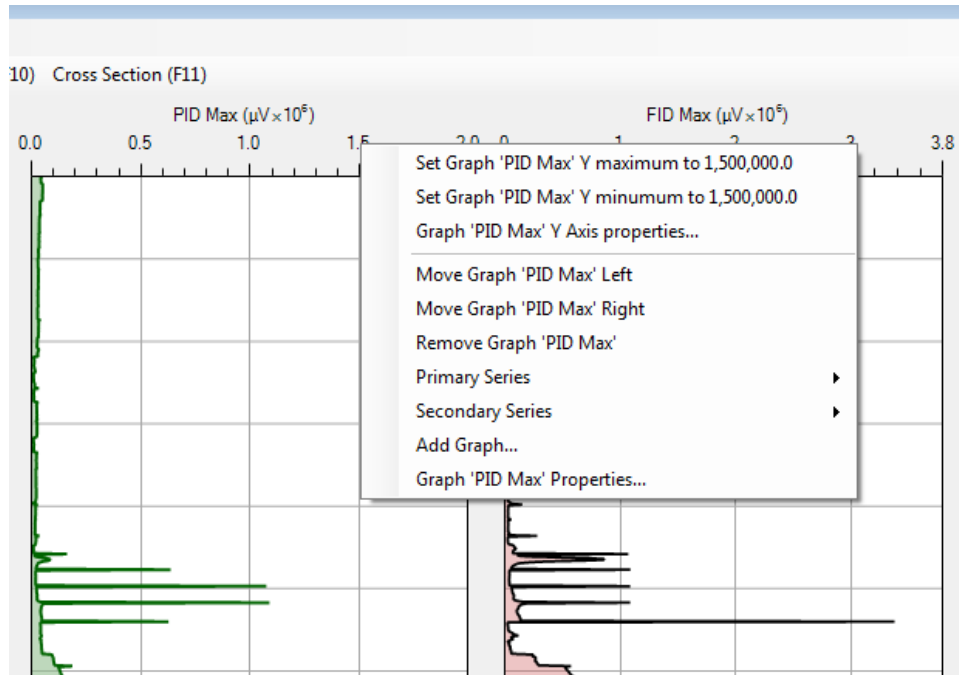

Figure 16: Making a quick graph scale change
1. Quickly reduce a graph scale by moving the cursor over a graph visible scale number and right clicking the mouse. Select one of the top choices that will set that axis scale level to either minimum or maximum value (Figure 16).